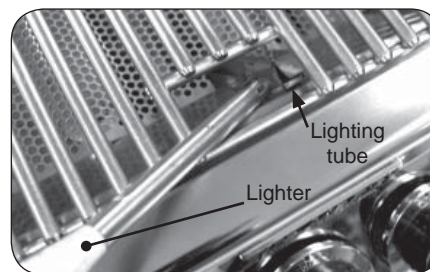

Fig. 11-2 - Manual lighting
**CAUTION:** Always wait five (5) minutes for gas to clear after any unsuccessful lighting attempt.
2. Insert either a burning long-barrel butane lighter or a burning long-stem match through the cooking grid opening to the top of the lighting tube. (Fig. 11-2). For backburners, hold the flame against the perforated material of the backburner.
4. If the burner does not light, **immediately depress the knob and turn the valve to OFF**. WAIT FIVE (5) MINUTES before repeating steps 2 through 4 of the MANUAL LIGHTING instructions.